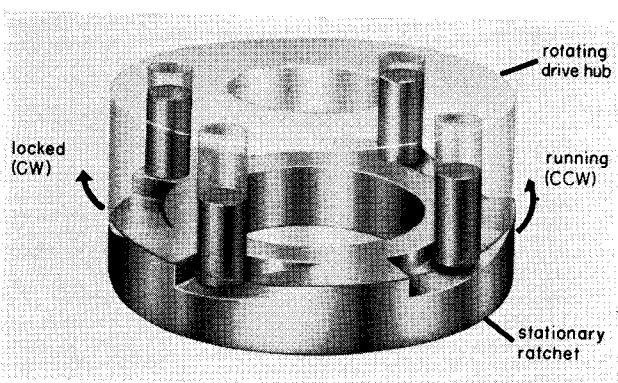

FIG. 1. Non-Reverse Ratchet (Coupling Not Shown)
1. **Ratchet Type.** These motors are equipped with non-reverse ratchet that permits rotation in the CCW direction only. The ratchet consists of a stationary member with teeth or steps cast into it and a rotating member with pins operating in vertical holes. When the motor starts in the forward or CCW direction, the inclined faces of the ratchet teeth throw the pins upward where they are held by centrifugal force and friction. When the motor stops, the pins drop and prevent CW or reverse rotation by striking the vertical faces of the teeth. Refer to Figure 1.